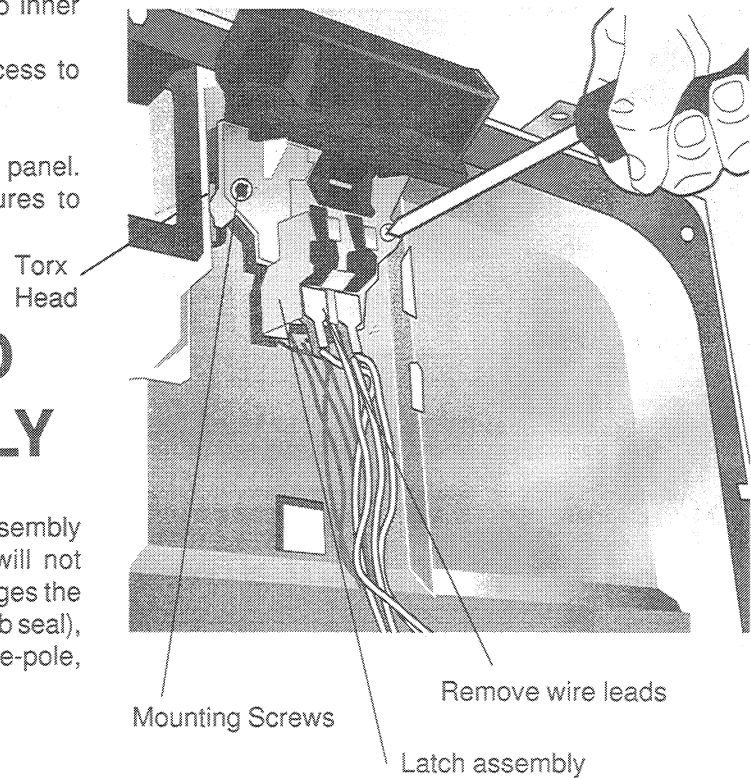

Figure 5
3. Remove wire leads from door latch switch. (See Figure 5.)
4. Remove screws securing door latch assembly to inner door panel. (See Figure 5.)